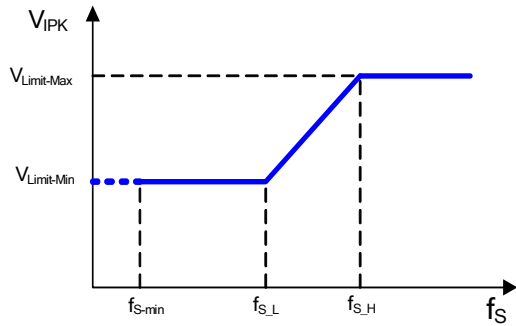

Figure 5: Peak Current Modulation
In constant current (CC) operation, the reference for  $I_{pk}$  is fixed at  $V_{Limit-Max}$ . In constant voltage (CV) operation,  $I_{pk}$  is modulated by the switching frequency (see Figure 5).